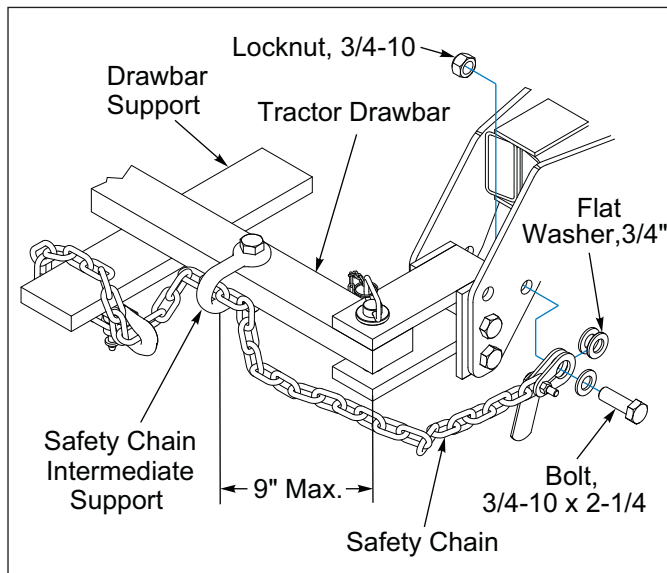

Figure 3-5: Safety Chain
4. Attach Safety Chain to tractor allowing plenty of movement for turning both directions. The Safety Chain should latch securely to prevent it from coming loose. **See Figure 3-5.**
2. Raise the Seeder fully to extend the Hydraulic Lift Cylinders and rotate the Transport Locks in the engaged position over the Cylinder Rod. Secure with the Clevis Pins and Hairpin Cotters. **See Figure 3-5.**
3. If not already done, raise Seeder fully to extend the Hydraulic Lift Cylinders and rotate the Transport Locks in the engaged position over the Cylinder Rod. Secure with the Clevis Pins and Hairpin Cotters. **See Figure 3-5.**
1. Raise the Seeder fully to extend the Hydraulic Lift Cylinders and rotate the Transport Locks to the engaged position. Secure with the Clevis Pins and Hairpin Cotters. **See Figure 3-5.**
7. Raise the Seeder and install Transport Locks. **See Figure 3-5.**